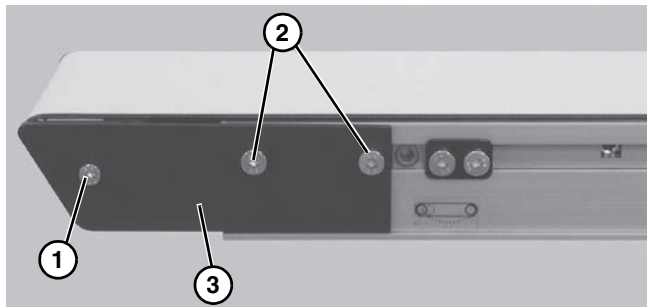

Figure 65
2. On one side of conveyor, use a 3 mm and 4 mm hex-key wrench to remove head plate fastening screws (**Figure 65, item 1 & 2**) and remove head plate (**Figure 65, item 3**).
4. After replacing bearings, re-install head plate (**Figure 65, item 3**). Use a 3 mm hex-key wrench to tighten one (1) fastening screw (**Figure 65, item 1**) to 30 in-lb (3.4 Nm). Leave two (2) fastening screws (**Figure 65, item 2**) loose for belt tensioning.